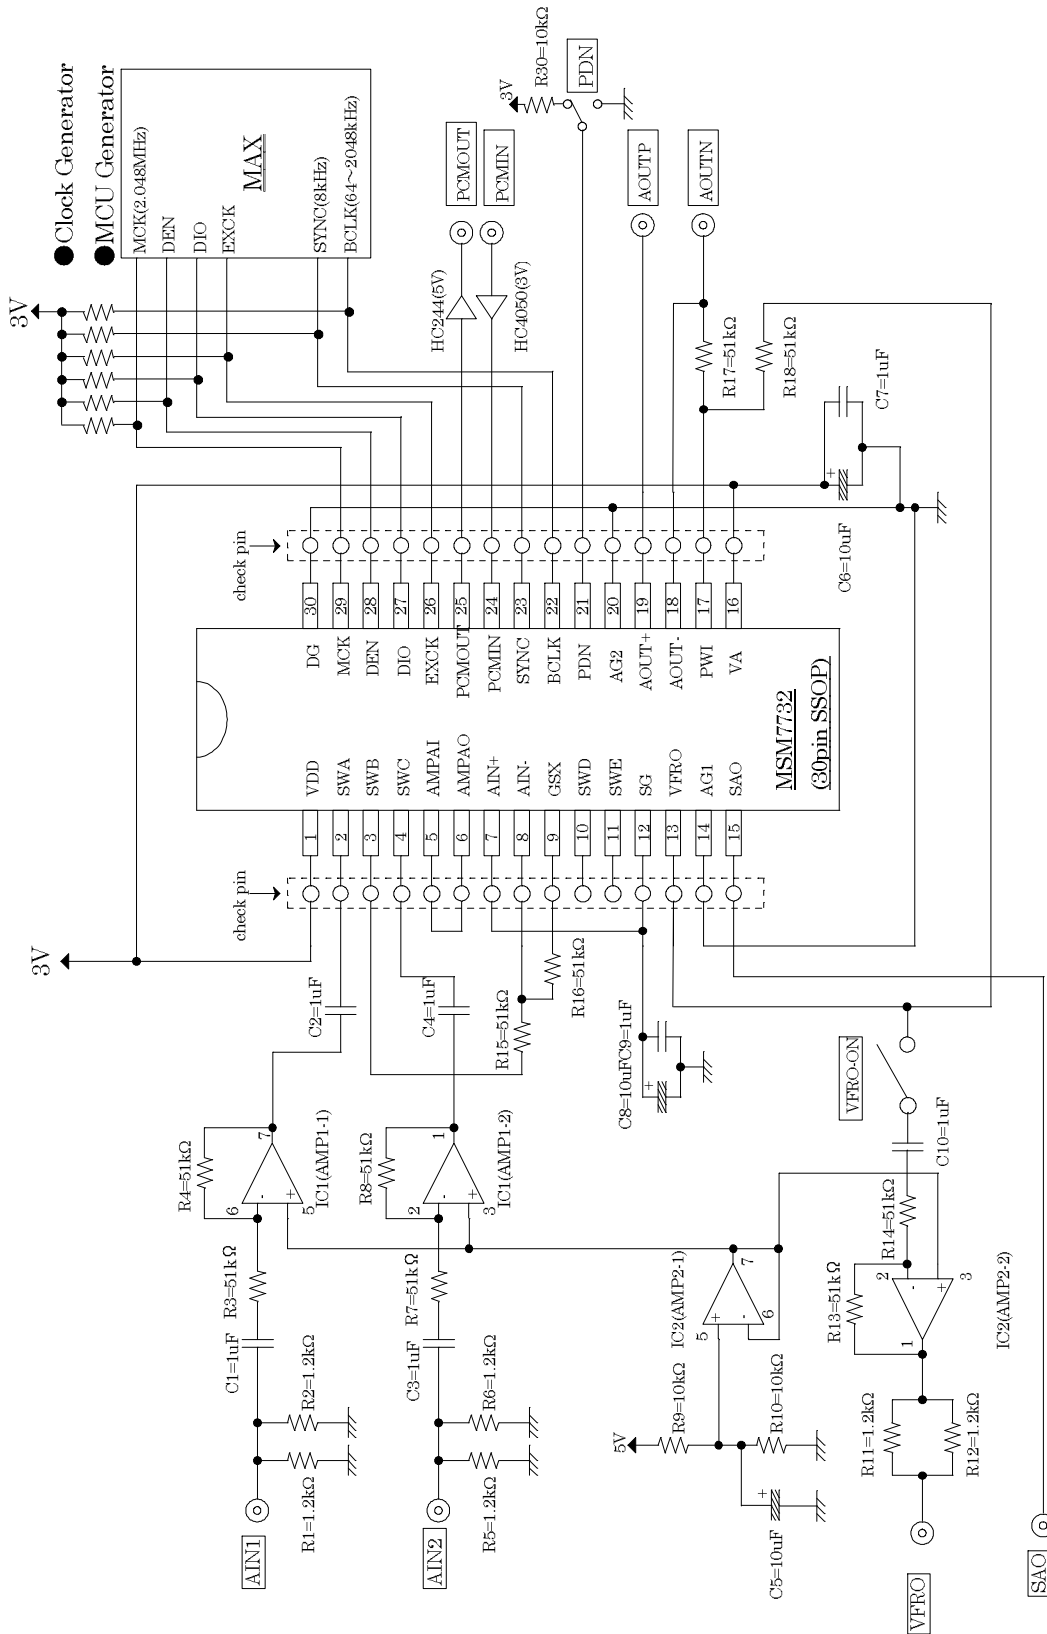

Figure 3. The schematic of the board
- The schematic of the board : Figure 3( Page 4)